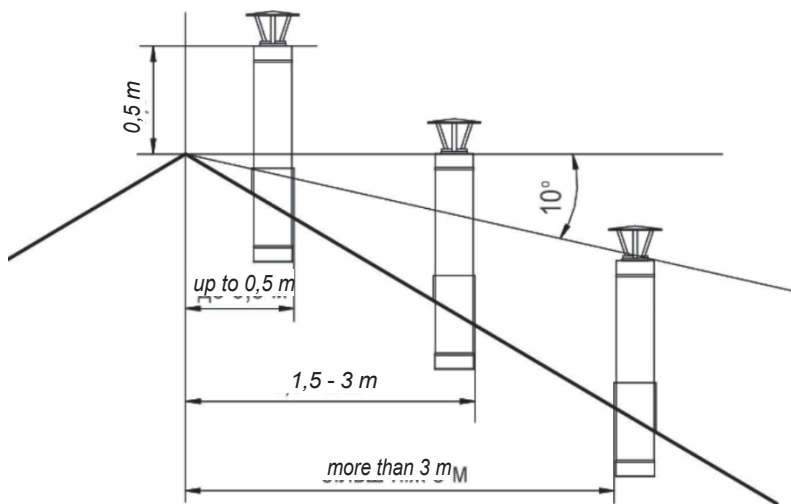

Figure 10. Positioning the chimney above the roof
- not lower than a line drawn at an angle downwards from the brush. 10° from the horizontal if the chimney is more than 3,0 m from the ridge (Figure 10).